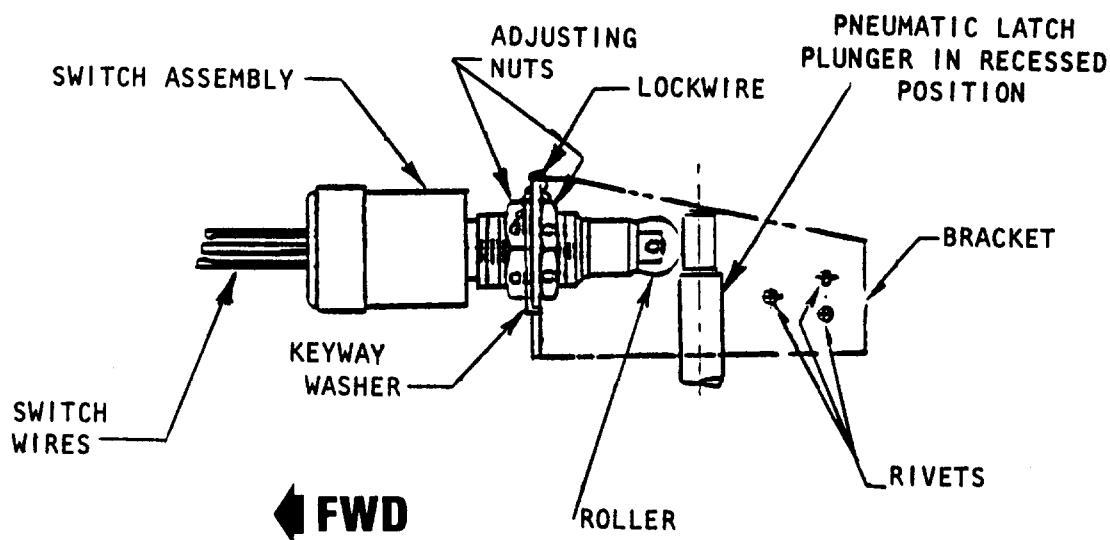

Figure 203 - Pneumatic Latch Switch Adjustment
- (1) With the pneumatic latch manually "unlocked" (plunger depressed), adjust the position of the switch by using the two jam-nuts (see Figure 203). The switch is properly adjusted when the actuating roller just contacts the small diameter of the plunger.
- (2) Use the test box AST-2860 and 6 ( $\pm 1$ ) psig shop air per Removal/Installation, 78-30-00.
- (3) Select deploy and observe for proper sequence of "Transit" and "Reverse" lights. Select stow and check for proper light sequence again. If necessary, slightly adjust switch position to obtain proper sequence.
- (4) Check that applying fore and aft pressure to the plunger while it is extended or depressed does not cause the switch to actuate. If necessary, adjust switch position.
- (5) With the pneumatic latch levers retained in the unlocked position and no shop air applied, ensure that the latch switches are not actuated (plunger extended).
- (1) Connect the electrical test box (Figure 203, 78-30-00) and a shop air supply to the thrust reverser. With the air supply turned off, electrically request deploy, then slowly open the manual air valve to gradually move the translating section toward deploy. Monitor the operation of the deploy switch via the "Deploy" light on the test box as the blocker door closes.